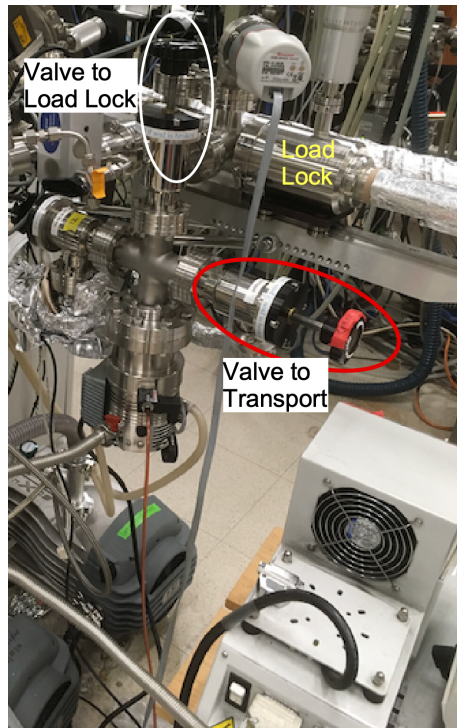
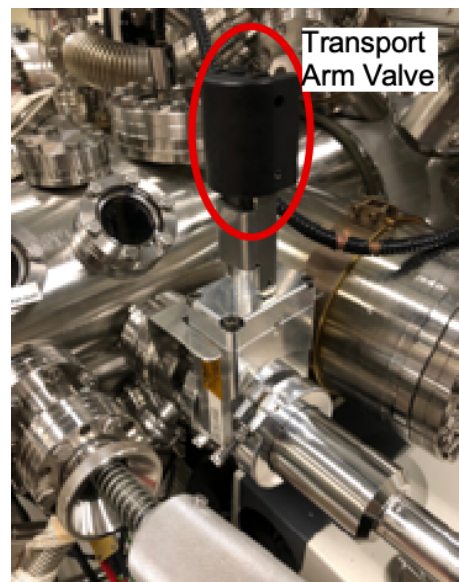

Figure 3 Valve to Transport and Valve to LL from Turbo pump
Figure 4 Transport arm attached to the KF Flange with transport arm valve handle facing up.
- (9) Vent the LL and wait till it comes up to atmosphere.
- (10) If the valve to the Transport is closed, open it, Figure 3. This valve should be left open all the times to prevent forming pressure differentials that can damage the pump or compromise the atmosphere of the STC if valves are inappropriately handled.
- (12) Restart the LL turbo pump and check that “V to transport” valve is open, Figure 3, so the space between the transport arm and the STC gets pumped down.
- (13) Put sign on the LL turbo that the transport are is attached and the operation of the LL turbo should not be changed.
- (14) Keep the valve on transport arm **closed** and wait until the turbo pump reaches full speed and the pressure is $<10^{-4}$ Torr
- (15) Vent LL again (venting LL is only possible if turbo pump is up to speed).
- (16) As soon as pressure gauge on LL reads 7.5×10^2 Torr, i.e., the LL is still under a slight vacuum, start the LL turbo pump again and open the hand valve on the transport arm, Figure 4, the handle facing up, (**NOT THE VALVE to STC FACING DOWN!!!!**)
- (17) Wait until LL pressure is $<10^{-6}$ Torr, takes about 1h.
- (18) Open the regular LL/STC gate valve using the computer to check if it can actually be opened and no interlock prevents it (**if you cannot open this valve, check if LL is at low enough pressure and the normal LL transport arm is fully retracted; if these were not the problem, stop here and call a GLA**)
- (19) **CRITICAL STEP:** Check that
- b. “V to transport valve” is open, Figure 3
- c. Hand valve on the PTS (the one facing up) is open, figure 4.
- (22) Fully retract Transport arm back into its chamber, lock the magnet, and close the PTS valve, Figure 4.